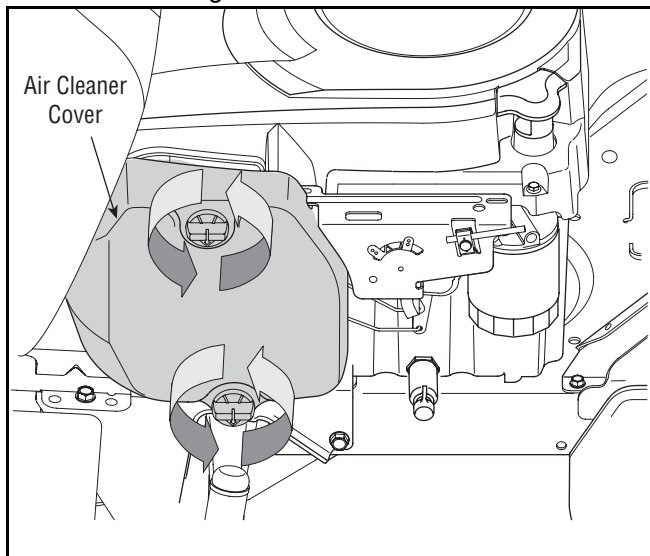

Figure 18
1. Loosen the air cleaner cover knob and remove the cover. See Figure 18.